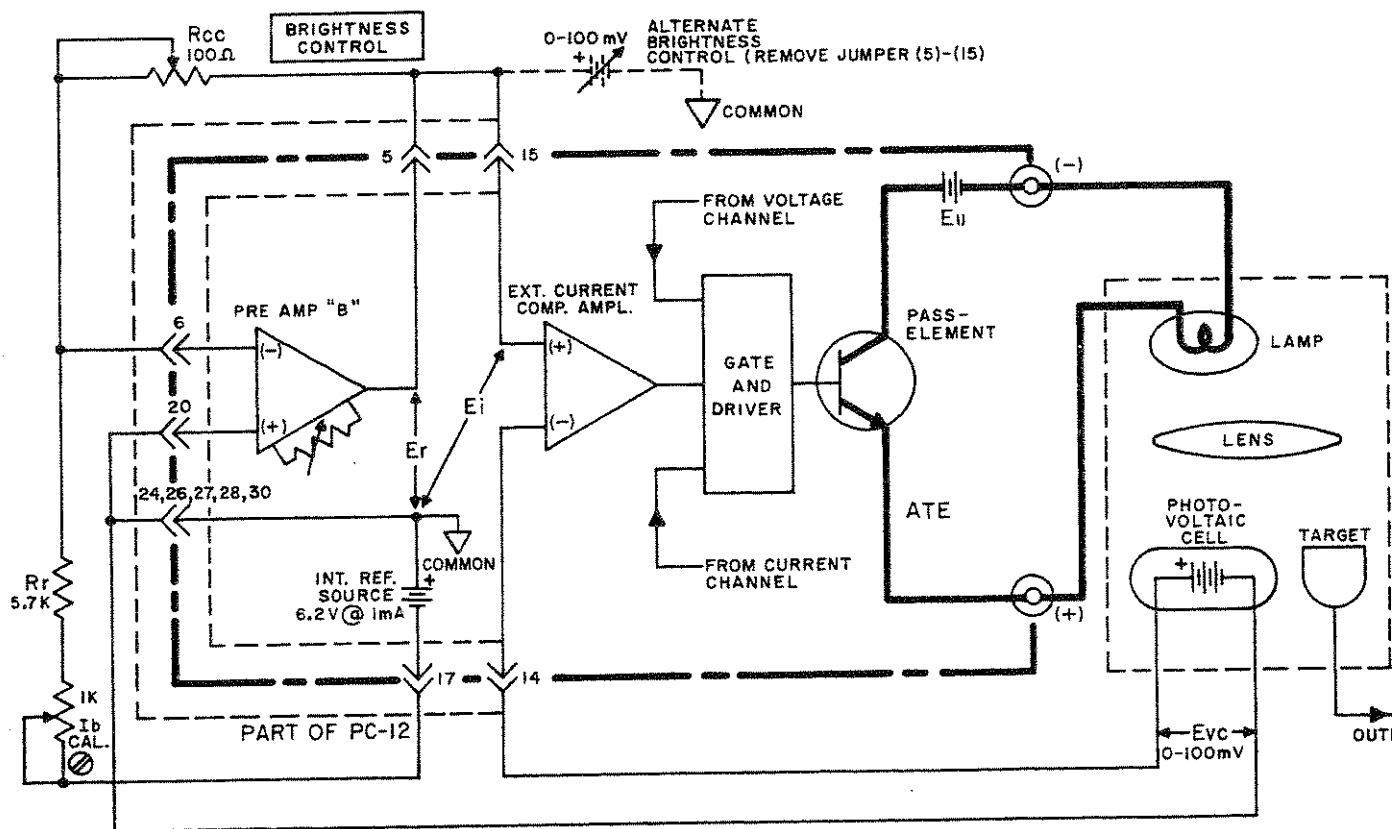

FIG. 3-17 ILLUMINATION CONTROL CIRCUIT WITH THE ATE POWER SUPPLY.
- 3-87 (Refer to FIG. 3-17). Assuming the ATE power supply is compatible with the requirements of the lamp load, the control circuit may be designed as shown with one of the ATE preamplifiers, or, an external control voltage source can be connected as indicated with the dashed lines in FIG. 3-17. The external source should be adjustable in the range from 0 to 100mV if illumination **control** is desired, or it should have a means of **calibration** if a fixed external source is used for a constant illumination level.